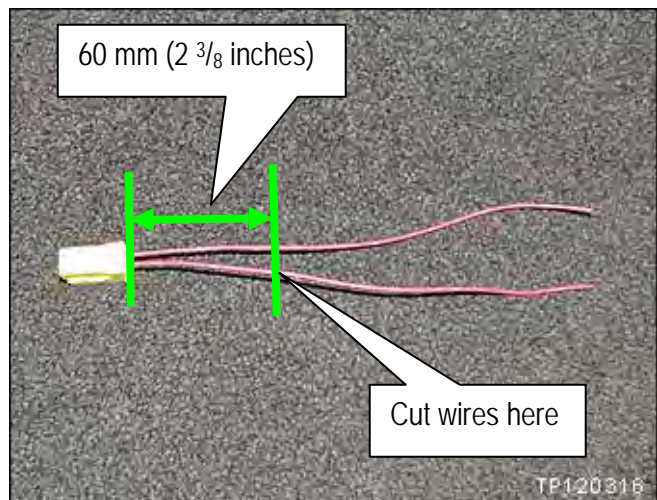

Figure CR28
25. Cut the wires on the new body side connector end 60 mm (2 3/8 inches) from the back side of the connector as shown in Figure CR28.